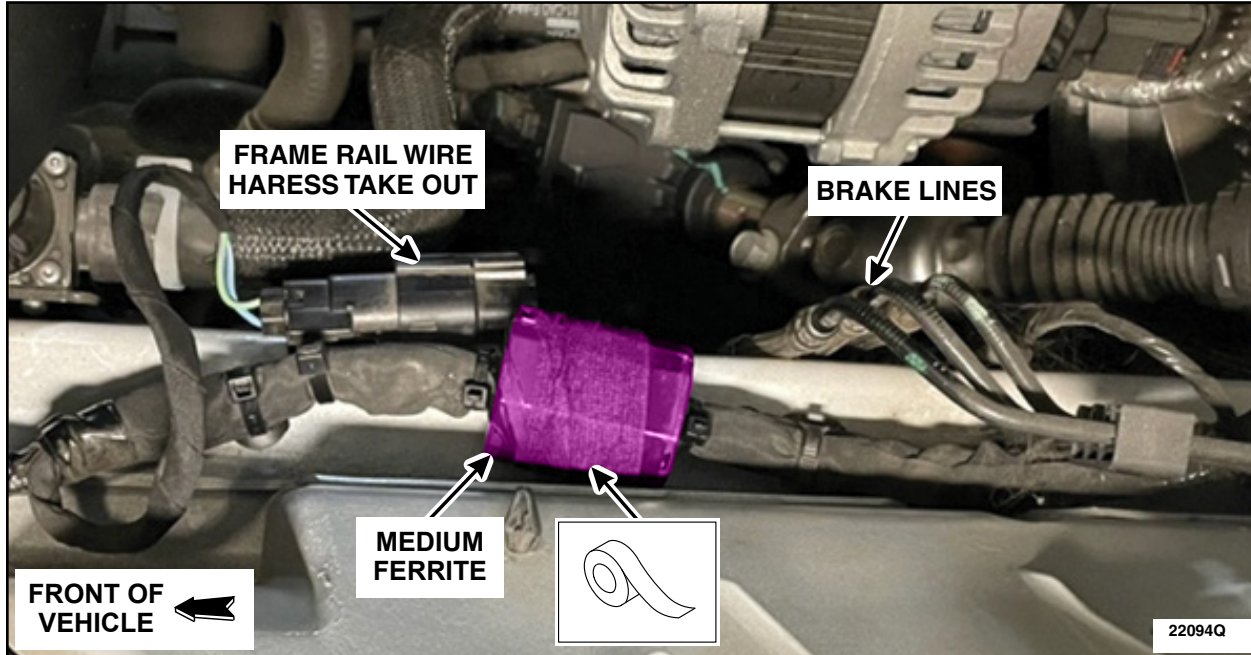

FIGURE 18
24. Locate the driver side frame rail wire harness take out. Install a **MEDIUM** ferrite (item B) onto the wire harness right behind the frame rail wire harness take out and before the brake lines. See Figure 18. Apply 3 wraps of Coroplast® (temperature/abrasion resistant cloth) tape to the ferrite to secure it closed and prevent movement on the harness.